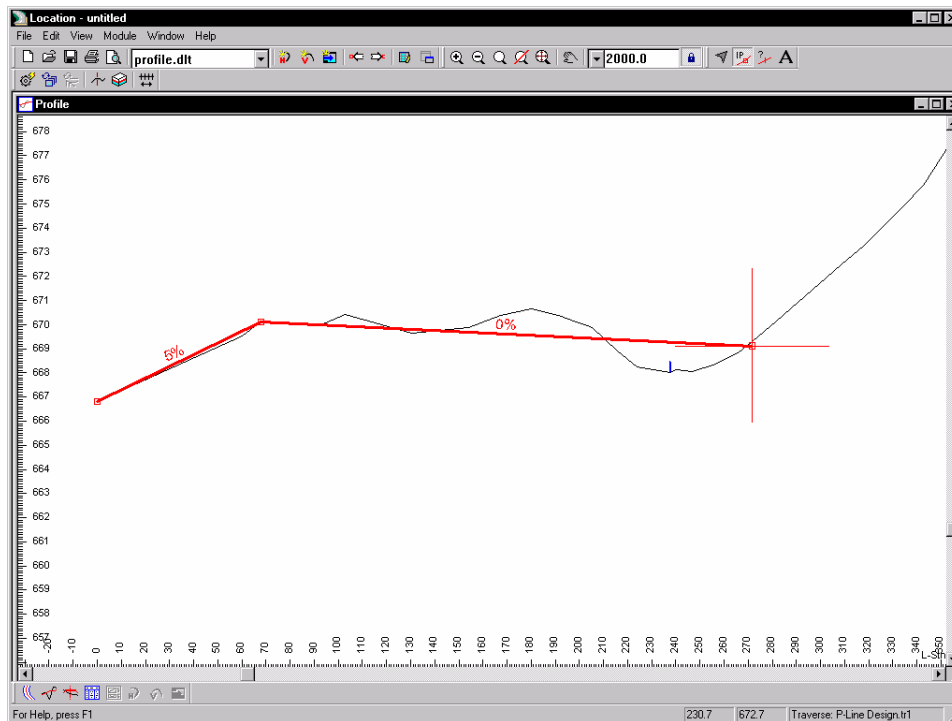

Figure 3.1: 2nd Design Point
9. Add another VIP (Vertical Intersection Point) by positioning the cursor roughly at the cross hair location shown in Figure 3.1. Remember it takes two left clicks to anchor the point.